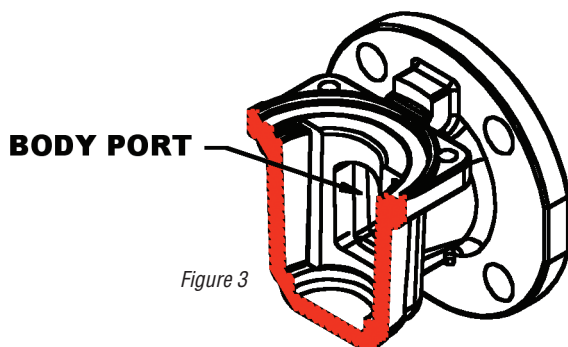

Figure 3
2. Place port seals (Part 2) in position in body. Align port seal ports with body ports (See Figure 3).